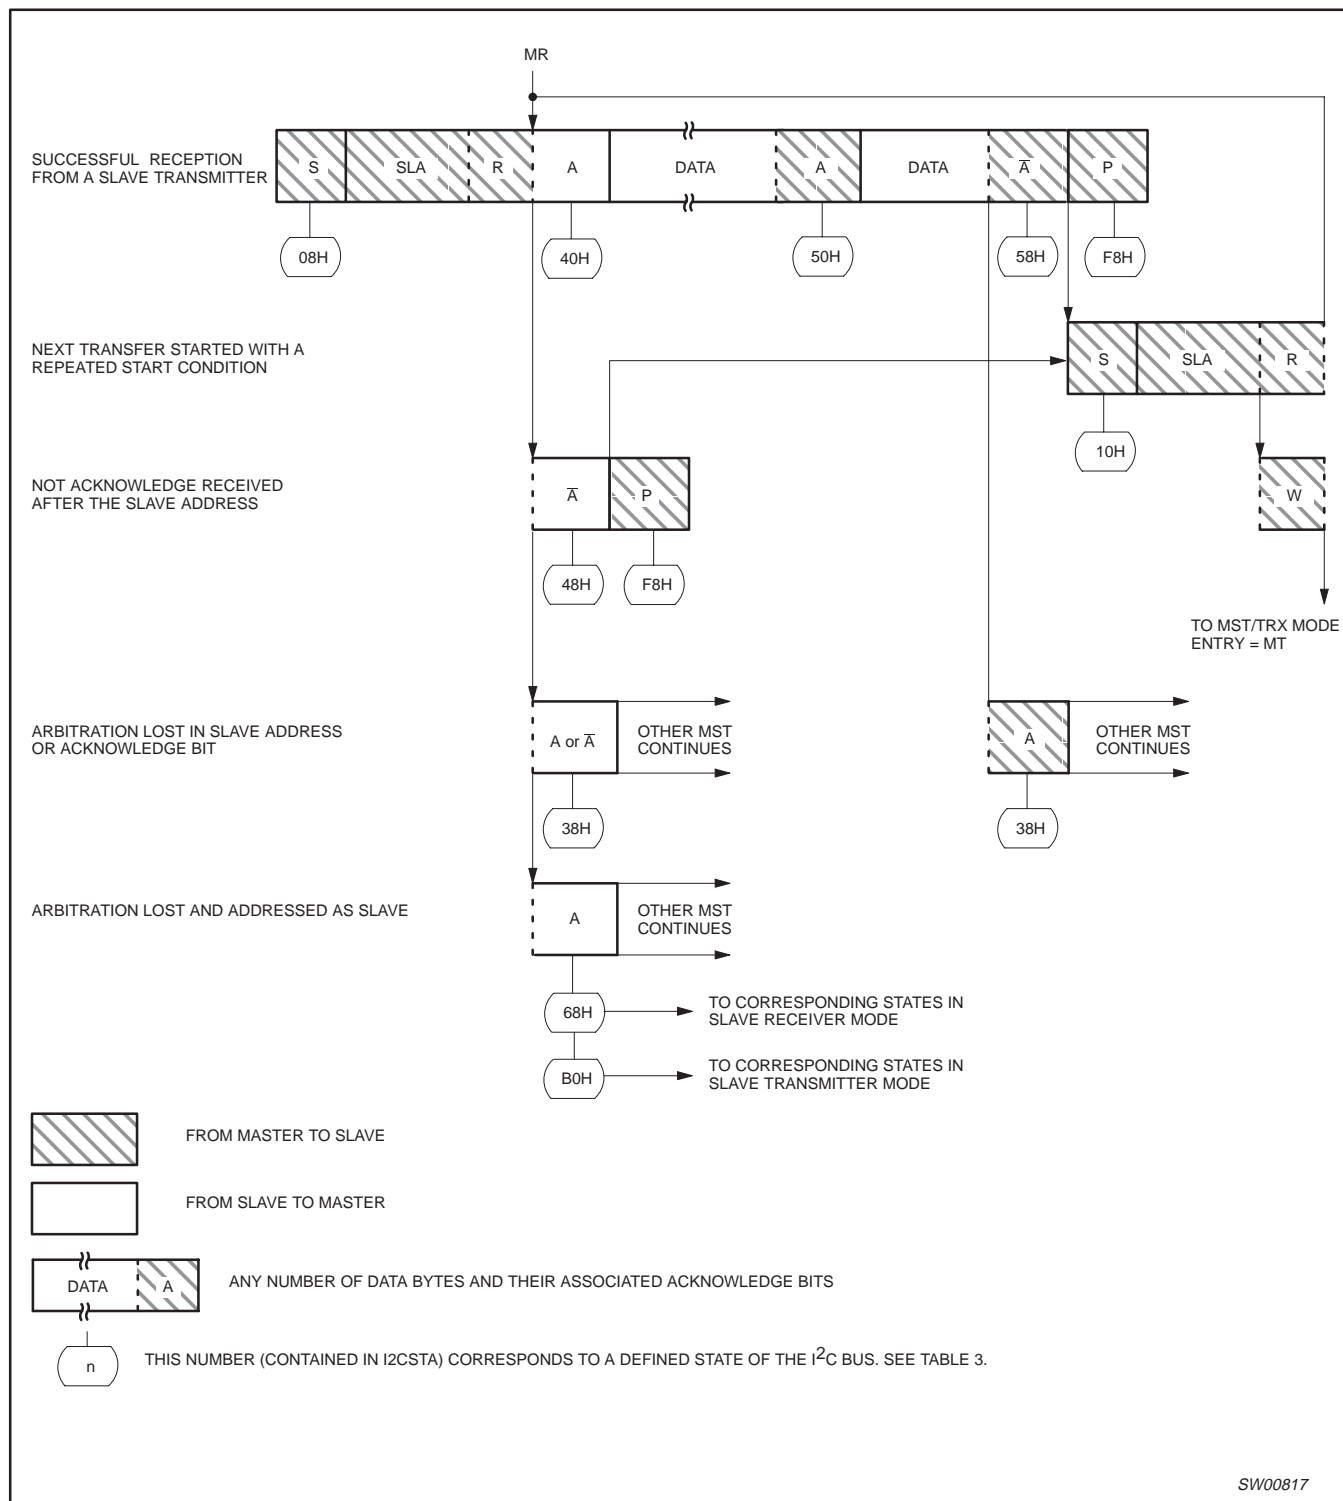

Figure 3. Format and states in the master receiver mode
**Master Receiver Mode:** In the master receiver mode, a number of data bytes are received from a slave transmitter (see Figure 3). The transfer is initialized as in the master transmitter mode. When the start condition has been transmitted, the interrupt service routine must load I2CDAT with the 7-bit slave address and the data direction bit (SLA+R). The SI bit in I2CCON must then be cleared before the serial transfer can continue.